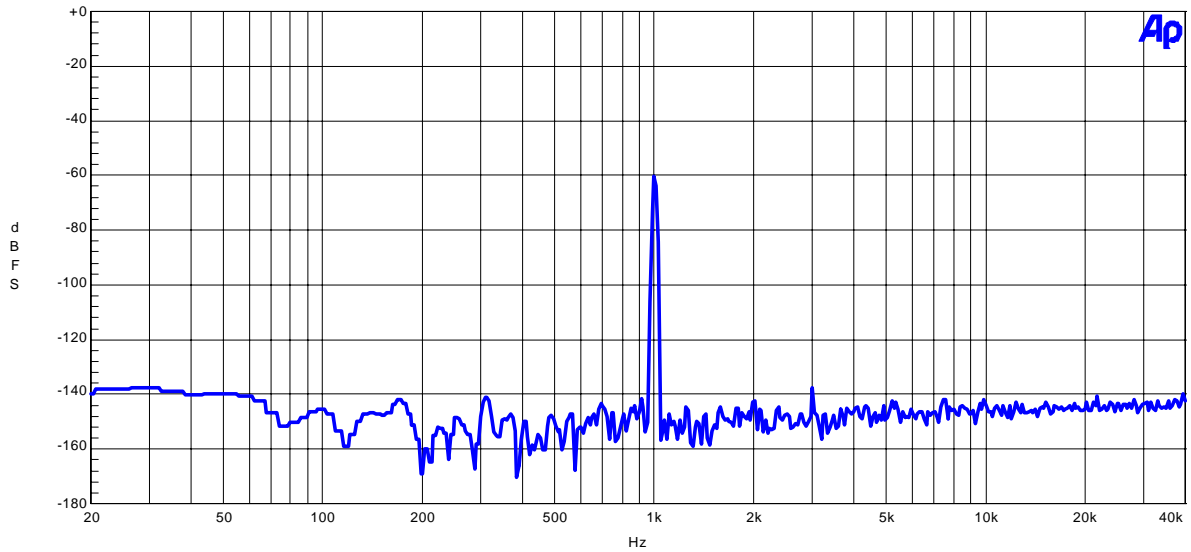

Figure 1-2-2. FFT (1kHz, -60dB input)
- Figure 1-2-2. FFT (1kHz, -60dB input)